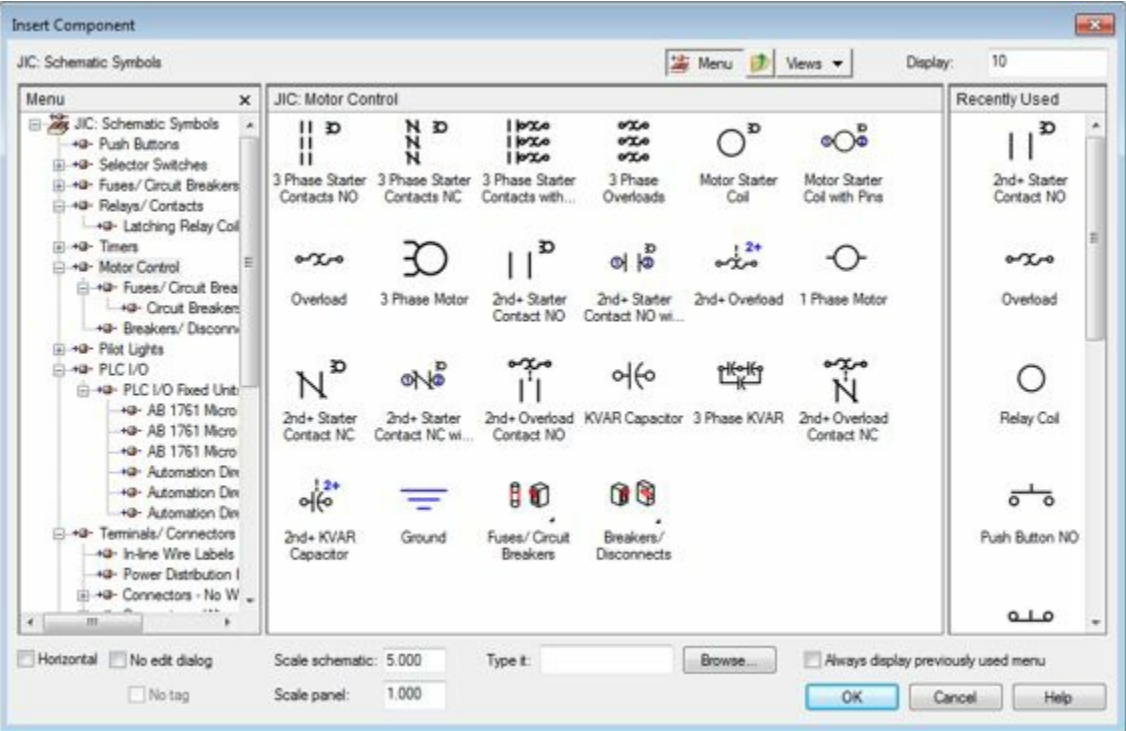

Figure-8. Insert Component dialog box
- Click on the **Motor Control** category from the dialog box. The components related to motor control will be displayed; refer to Figure-8.